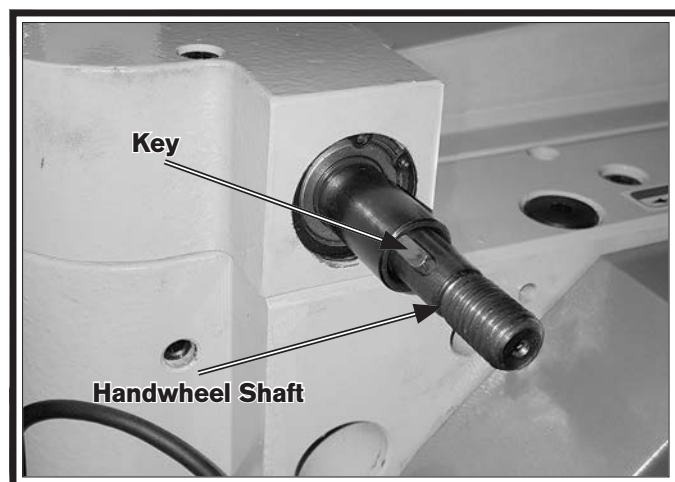

Figure 16. Key inserted into handwheel shaft.
5. Insert 4 x 4 x 10 key into keyway on handwheel shaft (see **Figure 16**).